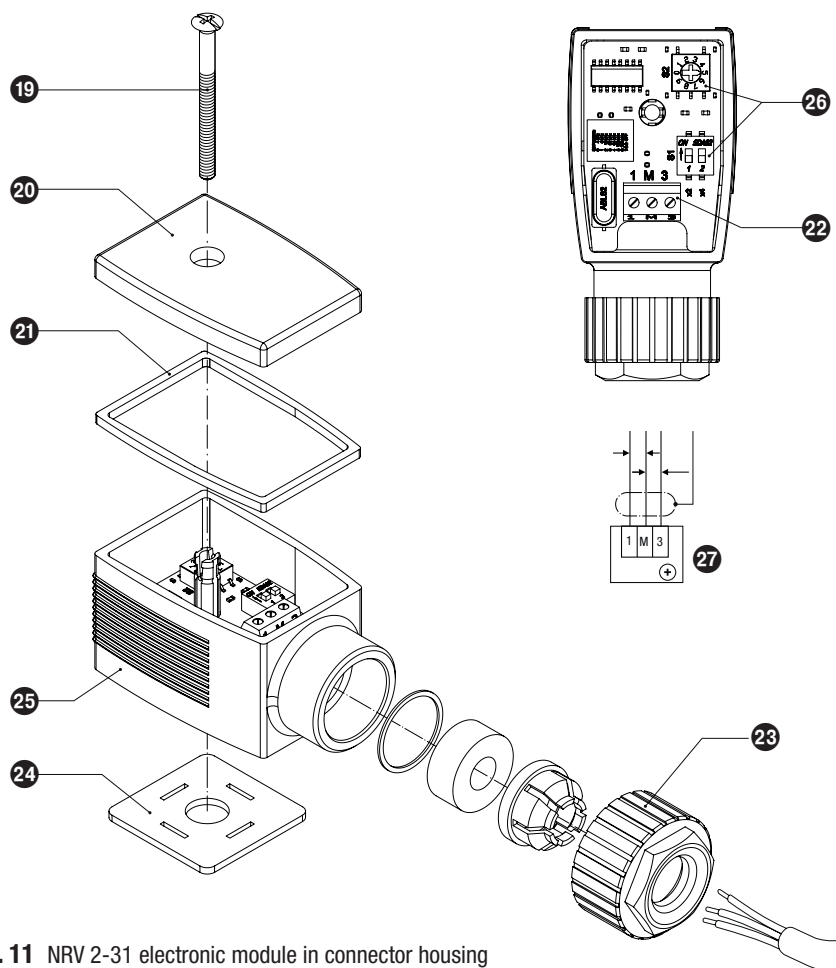

Fig. 11 NRV 2-31 electronic module in connector housing
1. Undo the screw **19**. **Fig. 11**
An active measuring range can be established within the electrode's measuring range. Use the code switches **29** **Fig. 11** to preselect the length of the active measuring range, using the factory setting tables on page 14 for guidance.